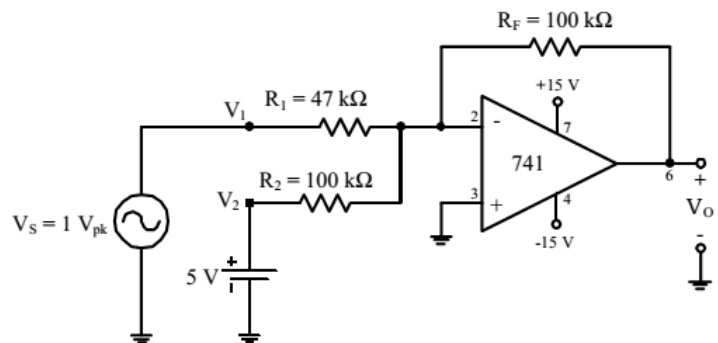

Figure 1
Figure 1 shows an example of how an operational amplifier is connected to perform voltage summation. In this figure, an ac and a dc voltage are summed. In general,
1. To demonstrate the use of an operational amplifier as a summing amplifier, connect the circuit of Figure 1.